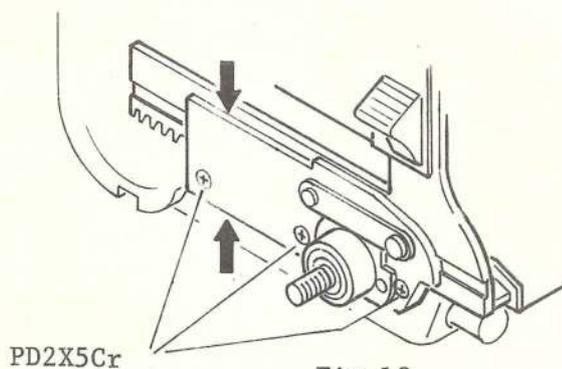

Fig. 18
- Adjust the parallelism by moving 2 pcs. of Guide plate EFC 4671, 4672, after loosening 3 pcs. of Screw PD2x5. Fig. 18